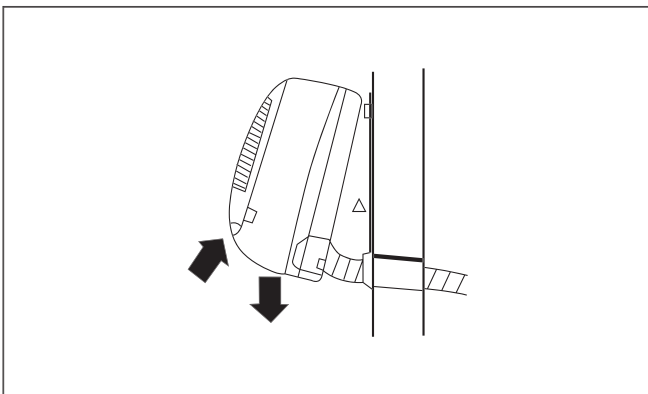

Fig. 9.8 Assembling the indoor unit.
- Tilt the lower part of the indoor unit forwards and insert an auxiliary tool (e.g. a piece of wood) between the mounting plate and the unit (see Figure 9.8).